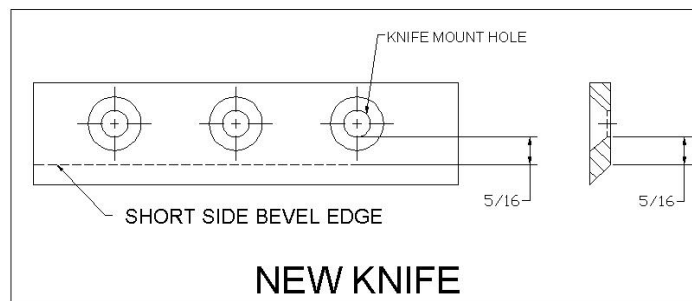

Figure 1
- A new chipper knife has $5/16$ " measurement between the short side bevel edge and the knife mounting holes. See figure 1.